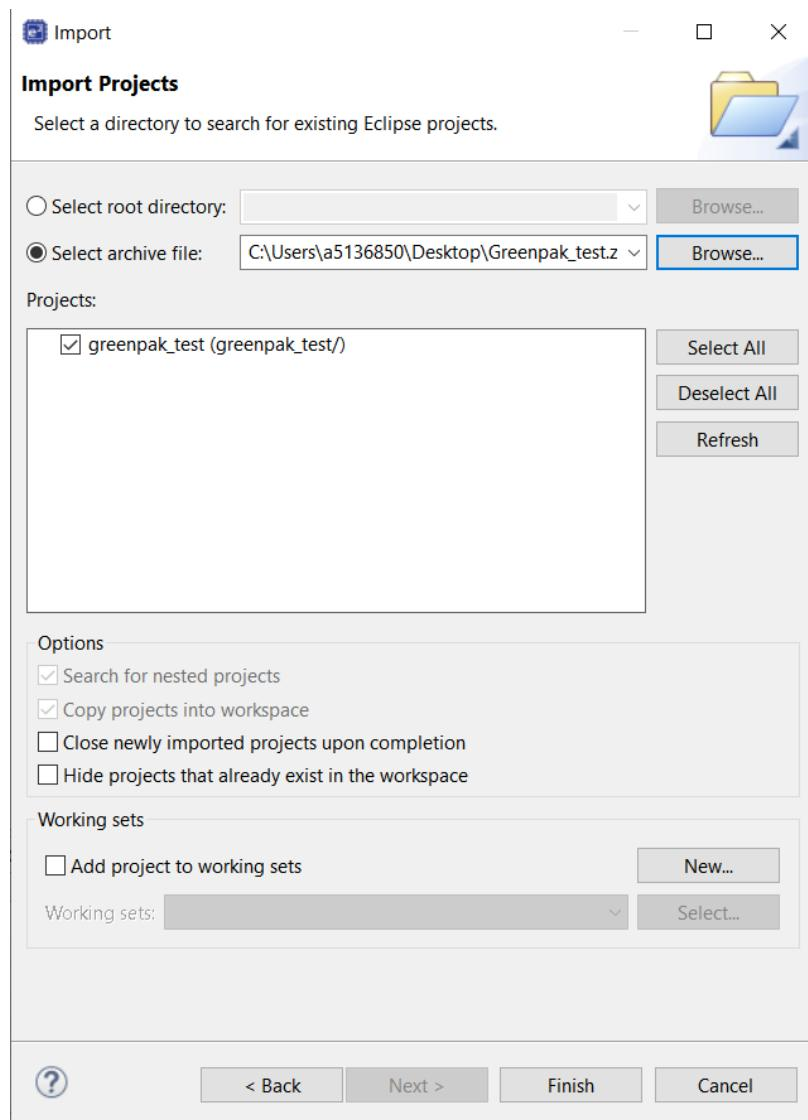

Figure 4. Import Projects Window
2. Select **File → Import → General → Existing project into workspace**. Click on the radio button **Select archive file**. Click on *Browse* to locate the **.zip** file (see Figure 4).